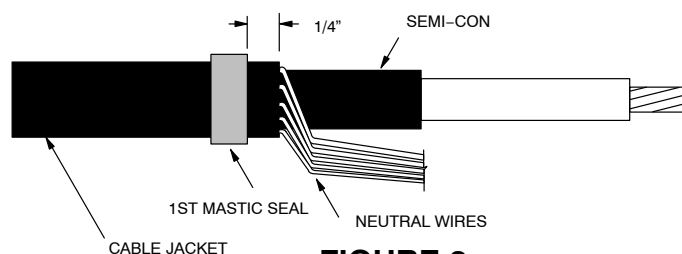

FIGURE 2
3. Select one of the mastic strips from the kit and remove the white release liners. Using light tension apply a single wrap of mastic around the cable jacket 1/4" from the edge. Cut off excess mastic. See Figure 2.